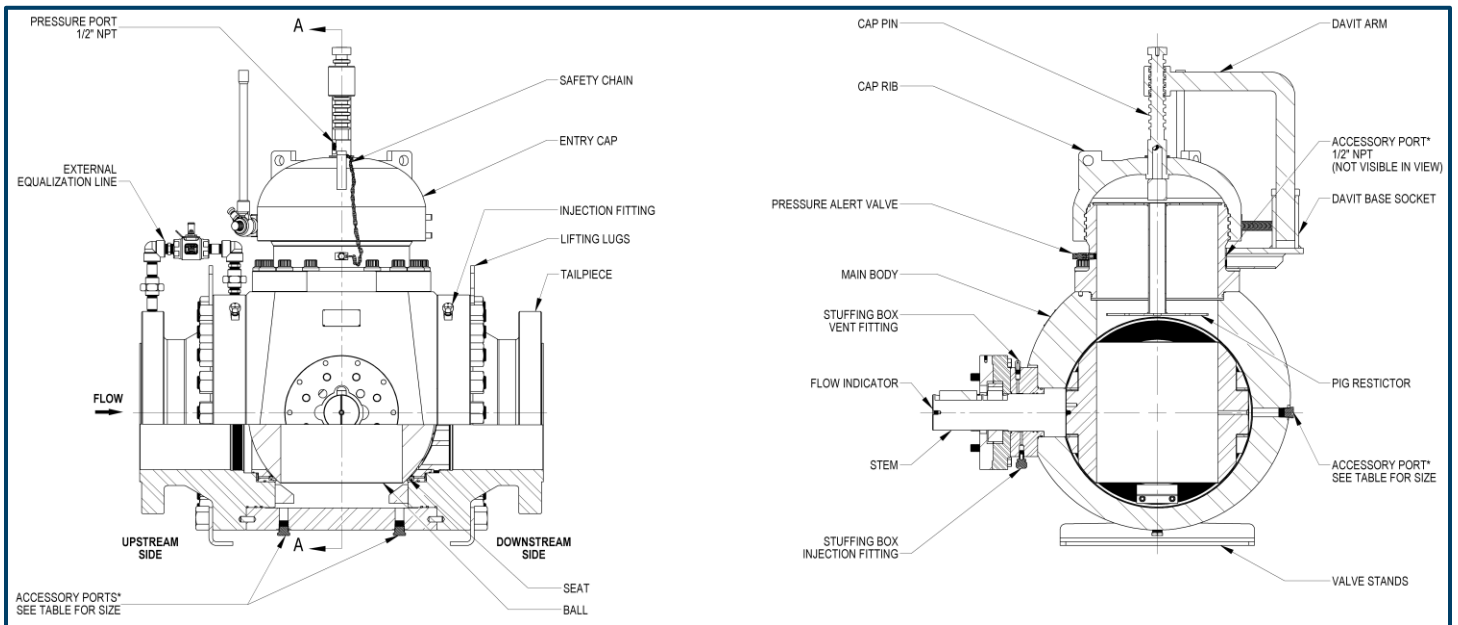

Figure 2: Pig Valve Model D c/w Pressure Alert Valve, External Equalization Valve
- Ensure that at least one of the accessory ports in the Pig Valve has been equipped with a vent valve (see Figure 2 & Table 1).
9. Remove the pig restrictor from the valve bore (see Figure 2).
9. Remove the pig restrictor from valve (see Figure 2).